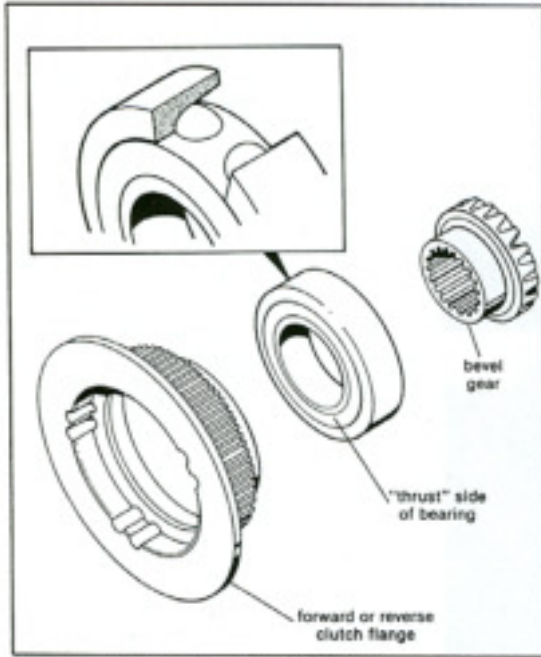

Figure 23. Clutch end flange, bearing and bevel gear. Bearing must be installed so that "thrust" side of bearing is toward clutch flange.
7. Press ball bearing into forward clutch flange. Make certain that thrust side of bearing goes toward clutch flange (see figure 23). Press bevel gear into ball bearing.
8. Likewise press the other ball bearing into reverse clutch flange (fig.23). Then press bevel gear into ball bearing. Check that ball bearings on both flanges are well seated.